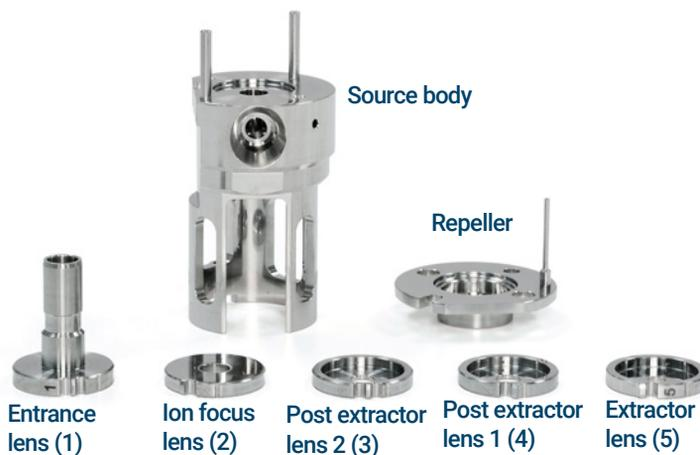

Figure 55. EI HES parts to be cleaned
- 2 Collect the following parts to be cleaned if you are cleaning an EI HES: (See **Figure 55** on page 182.)
- Extractor lens (5)
- Post extractor lens 1 (4)
- Post extractor lens 2 (3)
- Ion focus lens (2)
- Extended entrance lens (1)